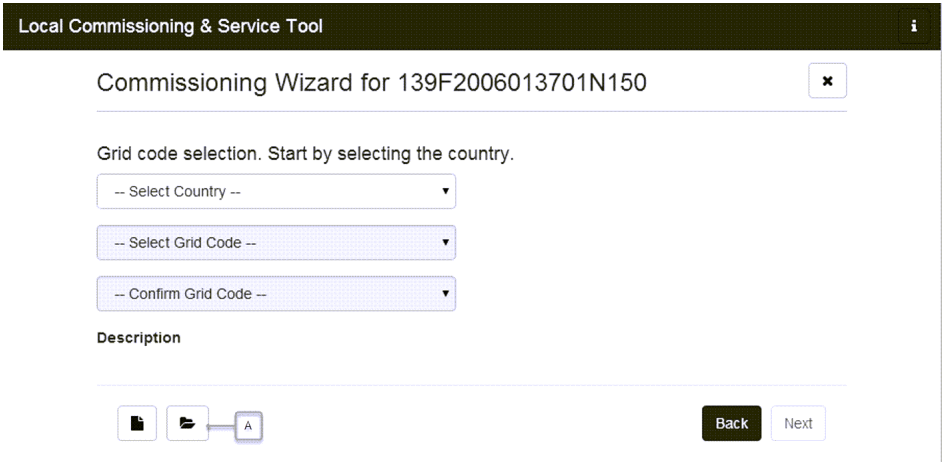

Figure 15: LCS-Tool - selecting the country and grid code
- 9. To load a customer-specific country data set (JSON file), select the Open icon under Grid code selection (Open icon: button (A) in figure 15).